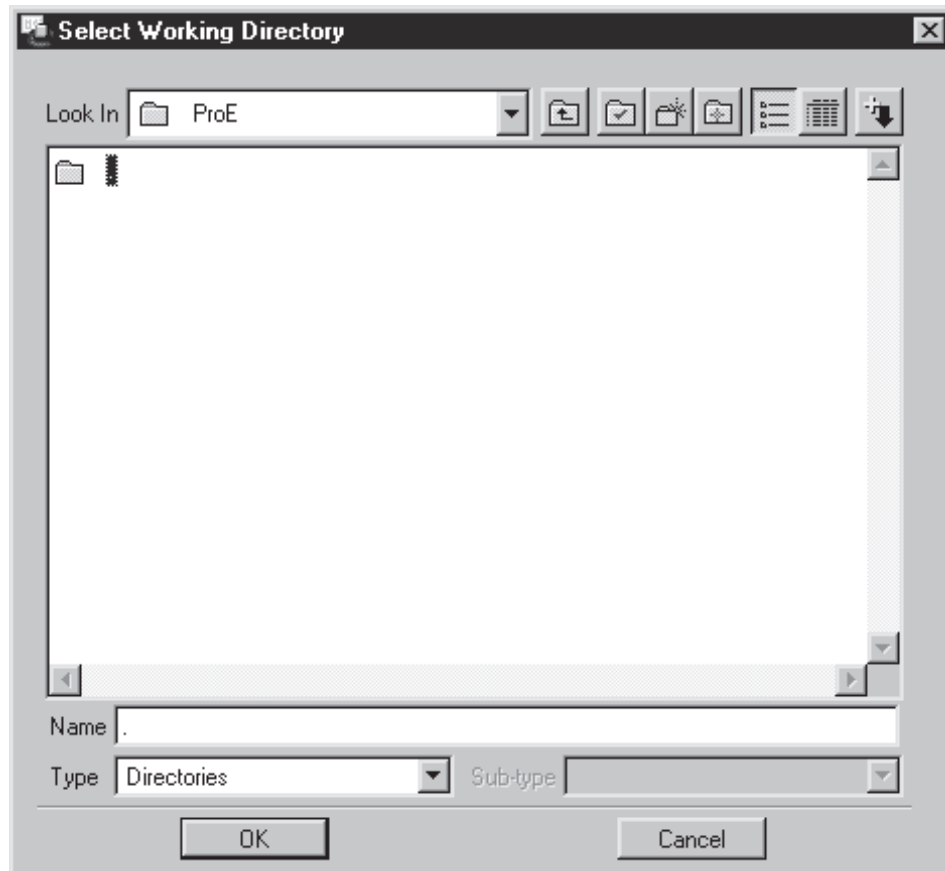

Figure 1-25 Select Working Directory dialog box
- Choose the **Set Working Directory** option from the **File** menu. The **Select Working Directory** dialog box is displayed as shown in Figure 1-25.